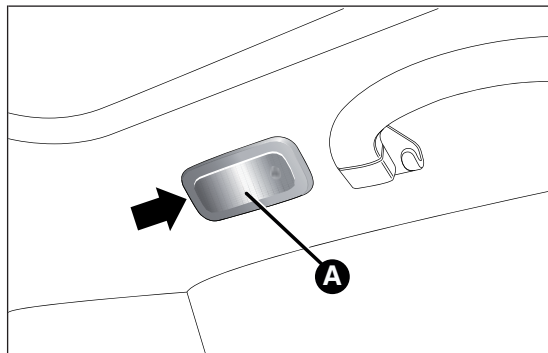

fig. 147
- operate in the point shown by the arrow and remove the roof light A fig. 147;